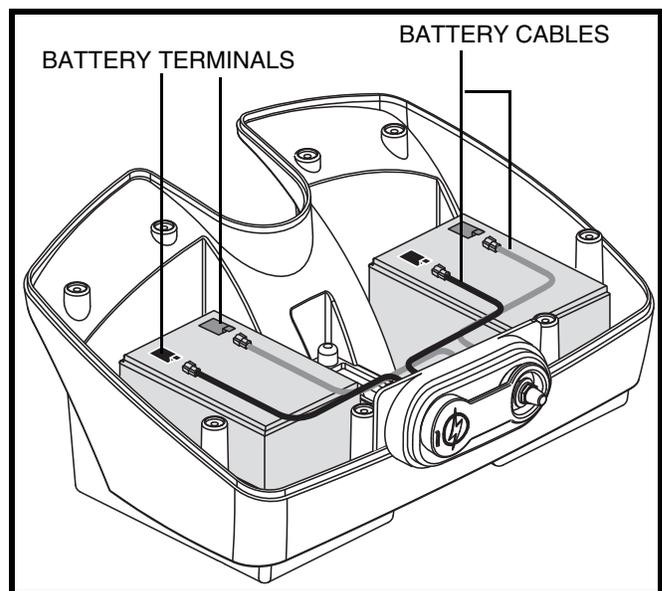

Figure 14. Battery Replacement
3. Remove the eight (8) screws from the perimeter of the battery pack.
5. Disconnect the black (-) and red (+) battery cables from the battery terminals on each battery. See figure 14.